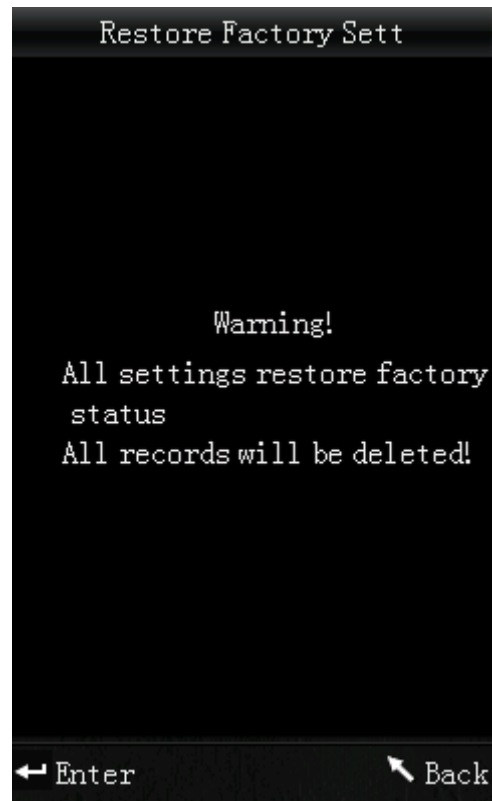

Figure 30 Restore Factory Settings
- c) Select “Settings” - “Restore Factory Set” to enter an interface shown in Figure 30. Press “Enter” button. The instrument will restore to factory default setting and clear all records.